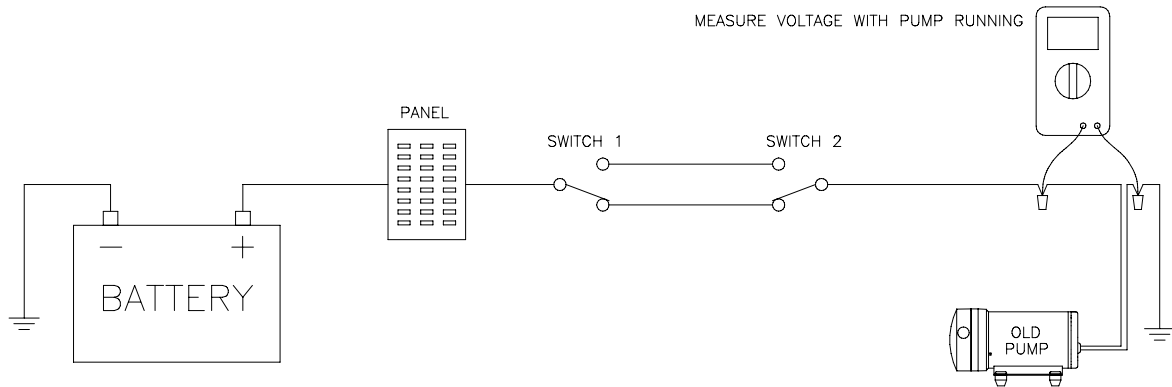
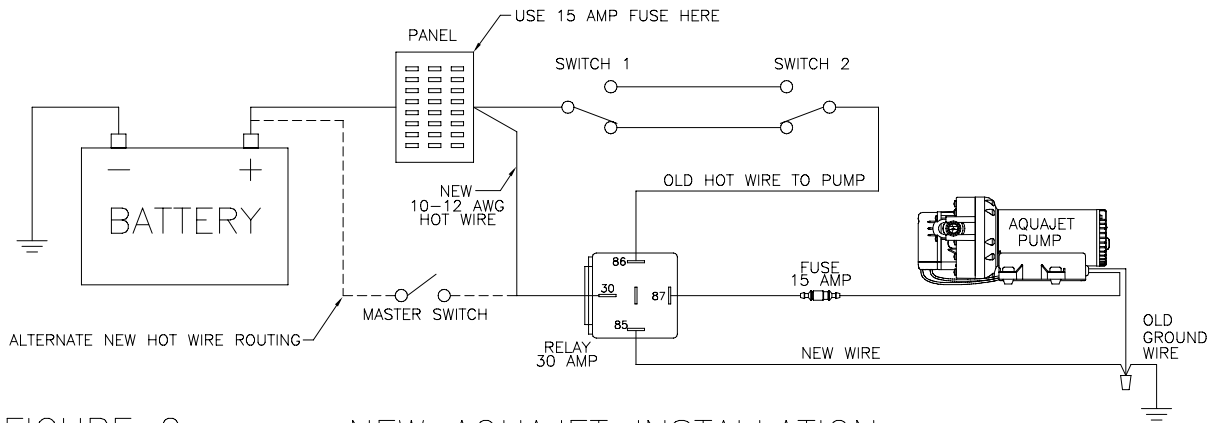
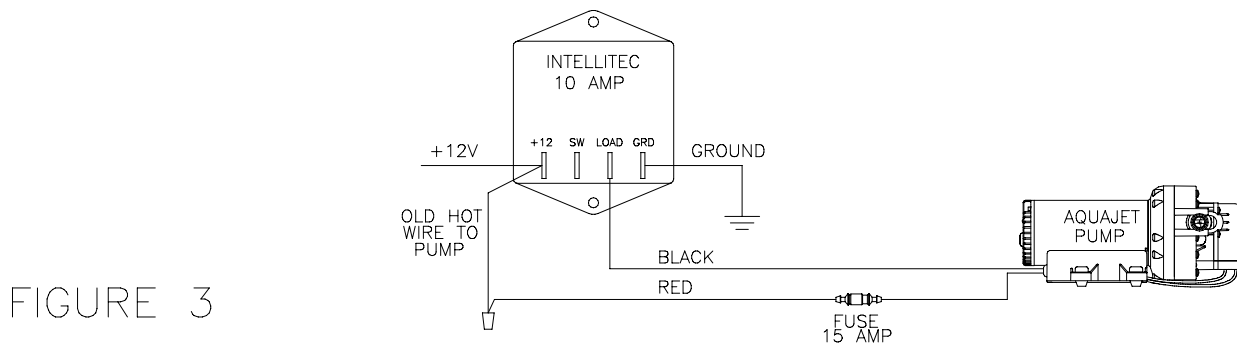
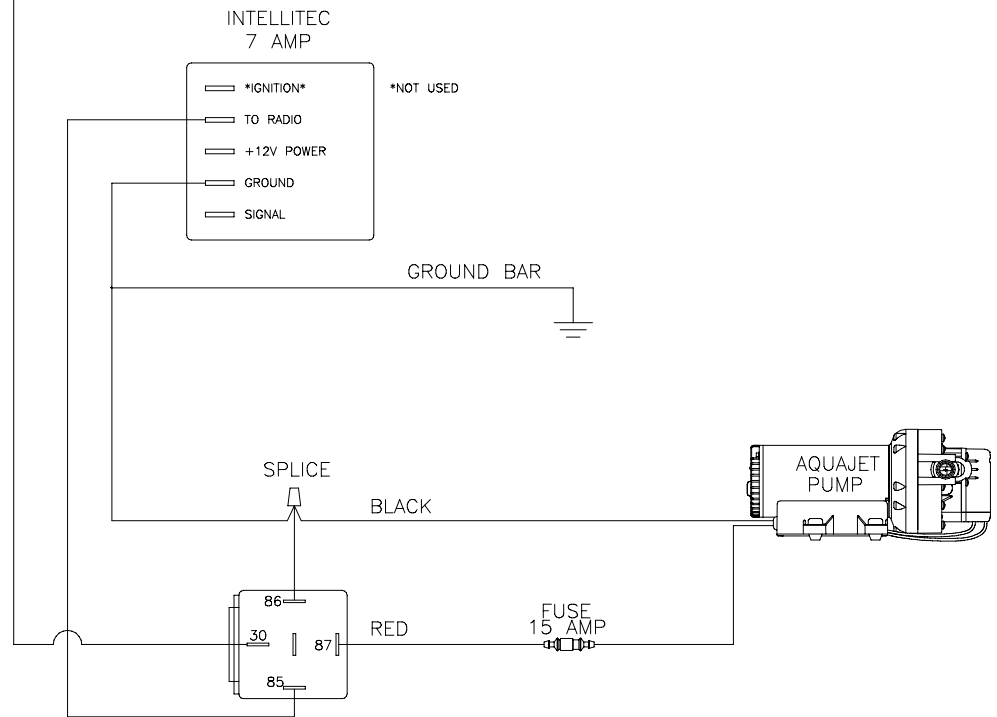

FIGURE 1 TYPICAL RV TWO SWITCH WIRING
FIGURE 2 NEW AQUAJET INSTALLATION
FIGURE 3
FIGURE 8
- a) Replace it with a 10 or 15 Amp rated controller. For your convenience, Intellitec's phone number is (708) 268-0010.
- b) Procure a 30 Amp rated relay (through either a local automotive store or directly through the Aquatec catalog, product number 20-267) to augment your existing controller. Please refer to schematics figures 3, 4 and 8.
If the voltage drop with your existing pump (typically 5 Amps) exceeds 1 Volt you will need to pull a new heavier (10-12AWG) 'hot' wire to the pump AND use a 30 amp relay (referenced in section 1b above) to connect your Aquajet pump (see figures 1 and 2).
5. At the end of your survey you should have determined how to wire the Aquajet pump. Your alternatives are illustrated in Figure 1 ("no change", also applicable for single switch systems), fig2, fig 3 , fig 4 or fig 8. You should also have determined how to plumb the pump. Your options are fig 5, 6 or 7. Always make sure you have all hardware needed before you start the actual installation.